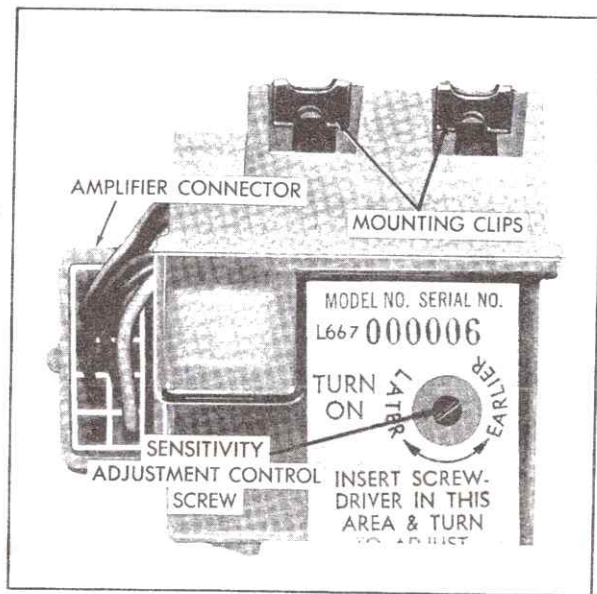

Fig. 15-41 Sensitivity Adjustment Control Screw
As shown in Fig. 15-41, the sensitivity adjustment control is available through the serial sticker on the end of the amplifier. Puncture the serial sticker in the control area as shown. This end of the amplifier should be accessible under the lower edge of the instrument panel.
1. Using a small screwdriver, rotate sensitivity adjustment control, Fig. 15-41, one or two lines (marked around access hole) in the direction to correct owner complaint. Rotate control clockwise for later turn on or counterclockwise for an earlier turn on.